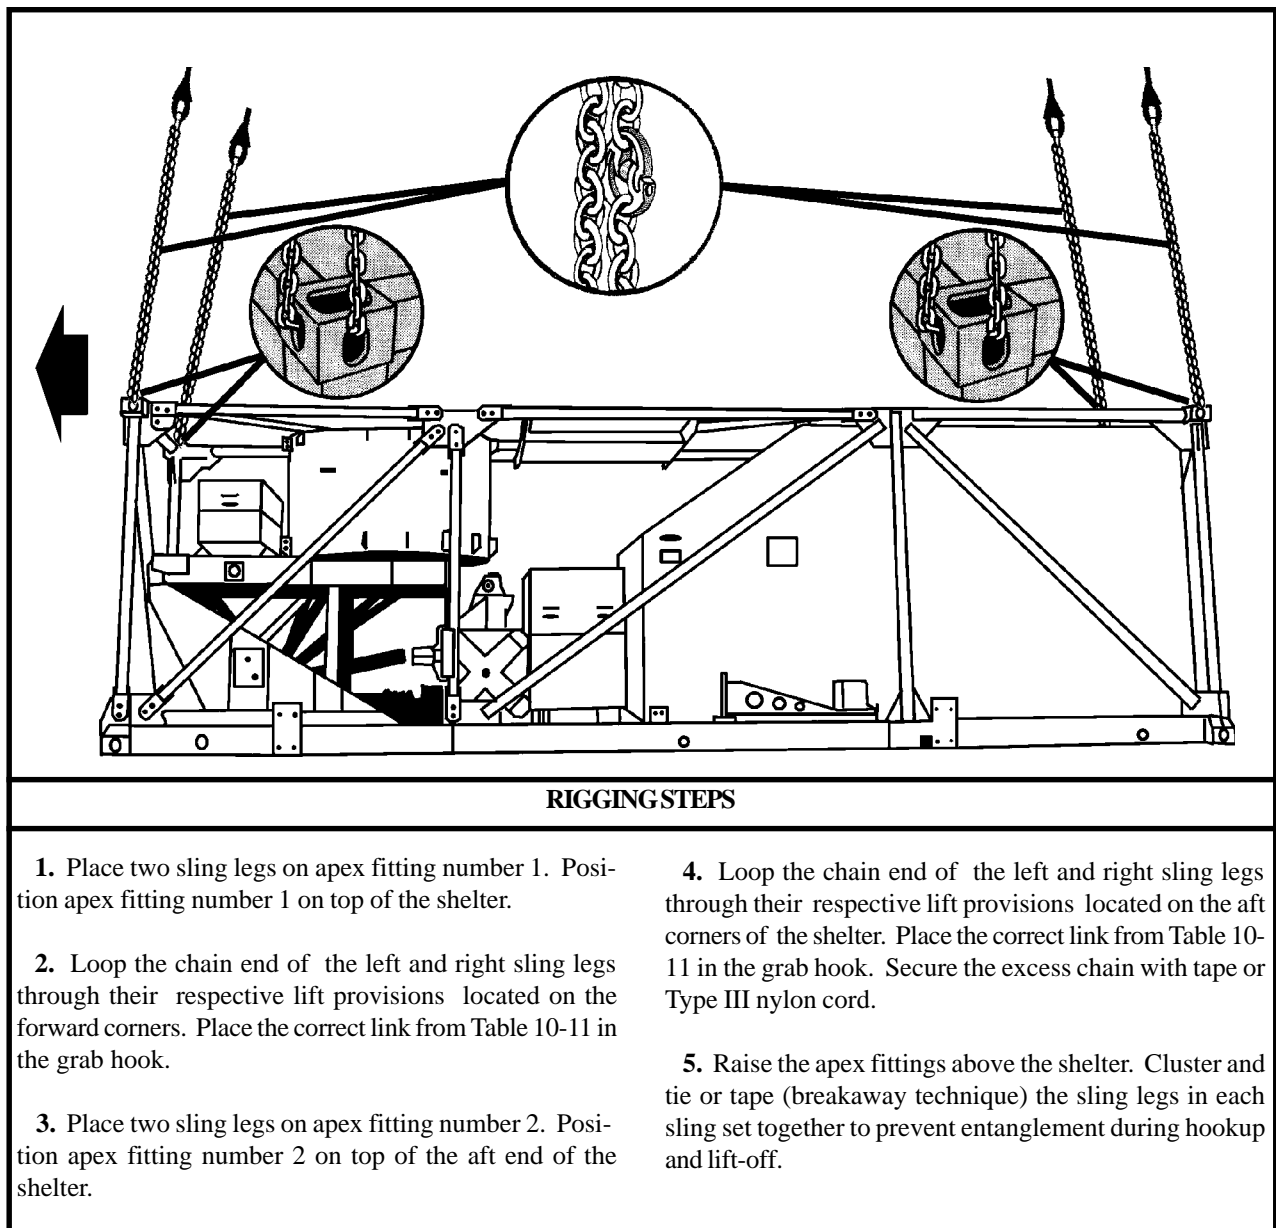

Figure 10-11. Trojan Air Transportable Electronic Reconnaissance System (TATERS) High Gain Antenna Group (HGAG) Shelter
(2) **Rigging.** Rig the load according to the steps in Figure 10-11.
(4) **Derigging.** Derigging is the reverse of the preparation and rigging procedures in steps d (1) and d (2).